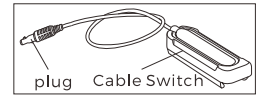

Fig 8
- 2) Insert the plug of Remote Cable Switch into the socket after matching the interfaces of plug and socket(Fig 8).